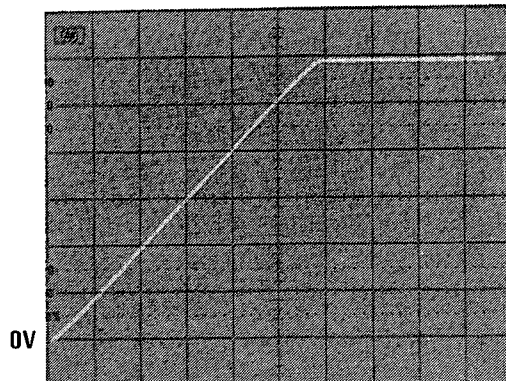

Figure 4-49
- 43. With the Pulse Generator level set as in Step 35, adjust the Pulse Generator controls to obtain the waveform shown in Figure 4-49, displayed on the oscilloscope.